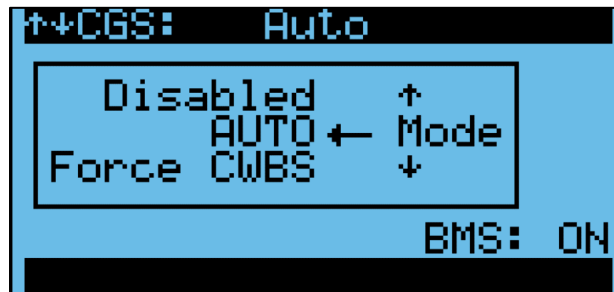

Figure 6: Mode selection
1. From the main screen, press  to access the mode selection screen (figure 6).